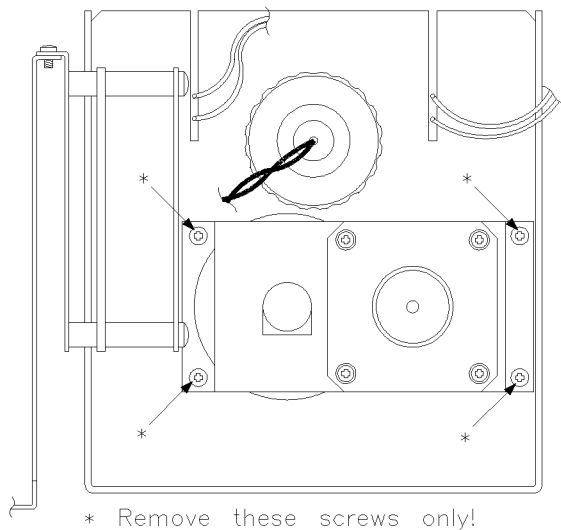
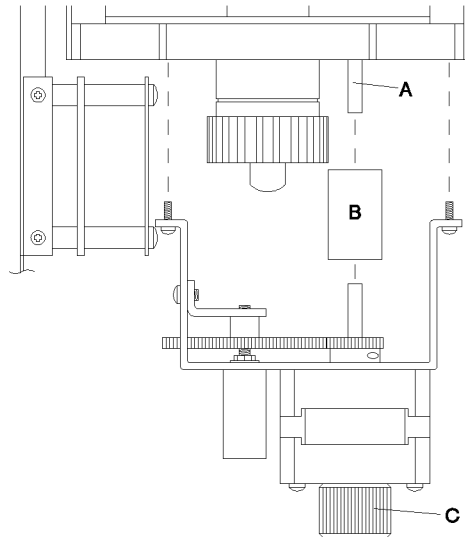

Figure 3-6. AB Motor Assembly Screws
Figure 3-7. AB Motor Assembly Parts
- B. Figure 3-6 and Figure 3-7 identify the important details of the AB Motor assembly.
- C. Refer to Figure 3-6. Proceed as follows:
10. Remove the AB Motor assembly from the optical unit. It will eventually be attached to the replacement optical unit (see Figure 3-6).